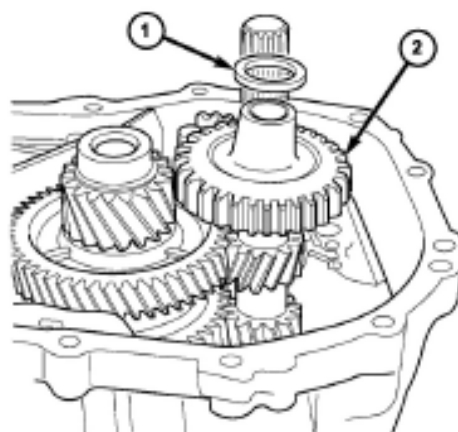

Figure 3-43 Reverse idler gear and gasket
(11) Take out the reverse idler gear and gasket (Figure 3-43).